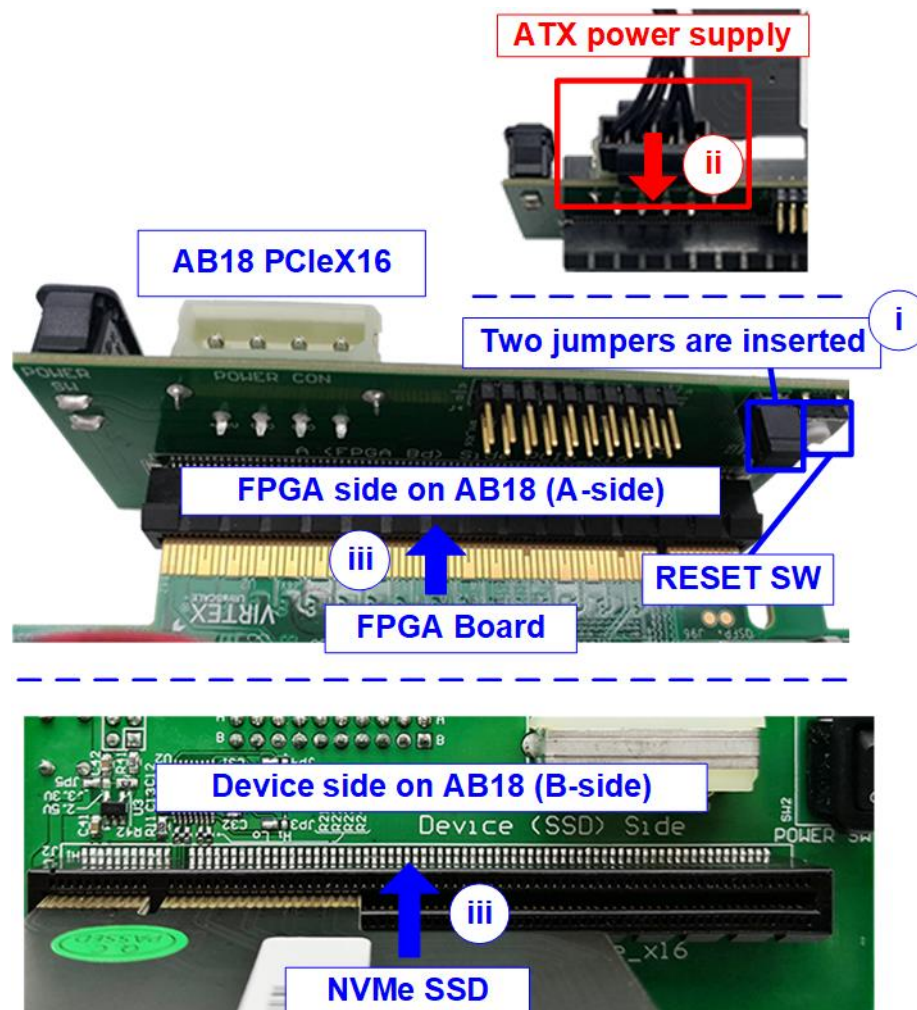

Figure 2-3 Connect AB18-PCIeX16 to KCU105
- iii) Connect PCIe connector on FPGA board to FPGA Side (A-side) and connect NVMe PCIe SSD to device side (B-Side) on AB board, as shown in Figure 2-3.